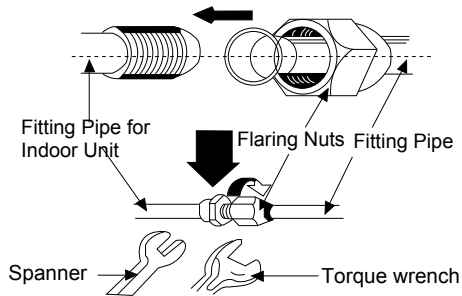

Fig.10
2. Use torque spanner to tighten the flared end nut until the spanner clatters (Figure 10).